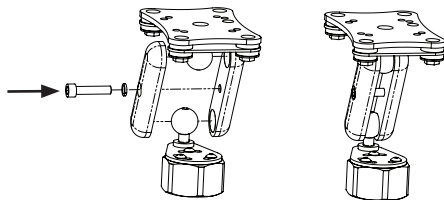

Figure 3
5. Using the  $5/32$ " Hex Key, loosely reassemble the mount as shown in **Figure 3**.